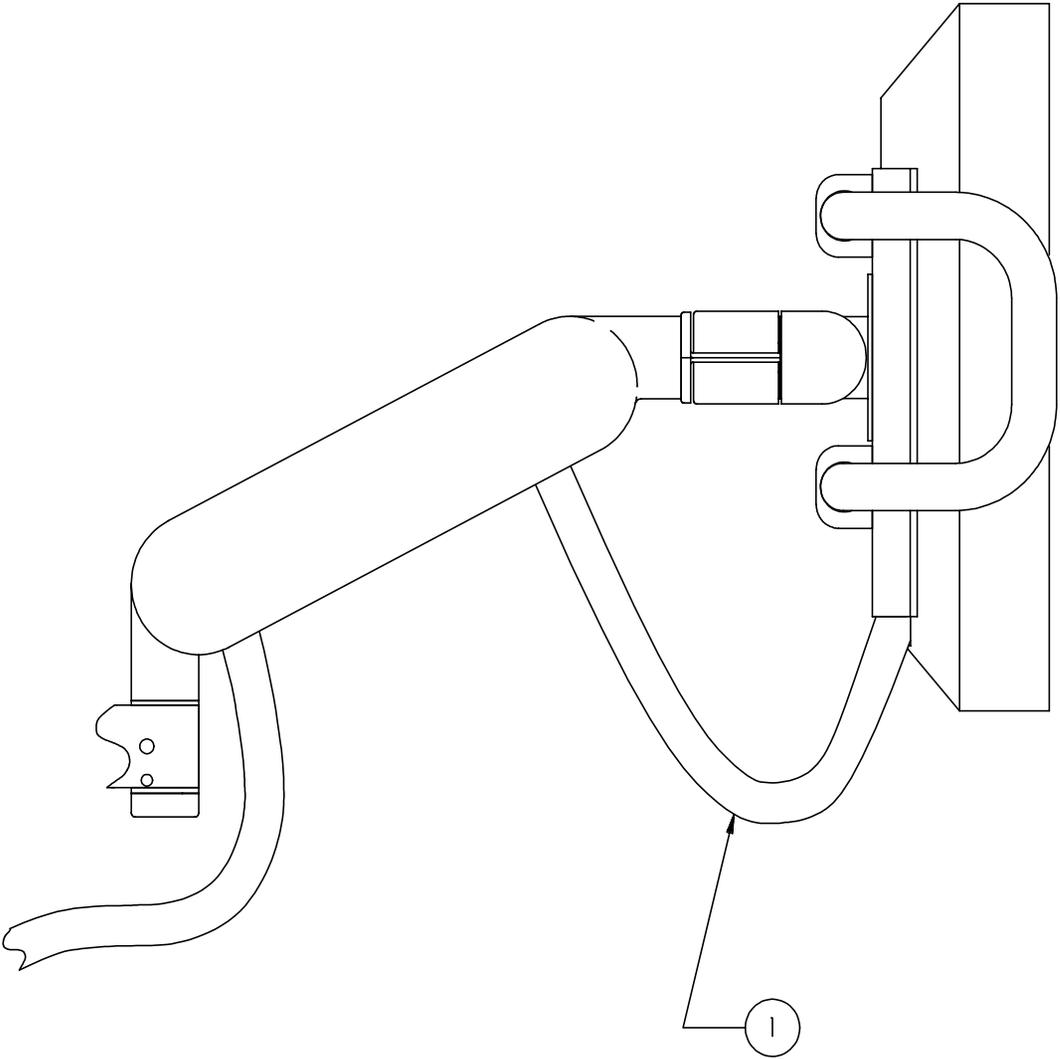

Figure 15
1. After re-attaching the monitor (with the cable connected), but before re-attaching the cable to the clamps & tie-wraps on the underside of the Secondary Arm, leave enough of a cable service loop (or slack) between the monitor and top end of the Secondary Arm so the monitor can rotate the maximum ranges of vertical and horizontal motions. See Figure 15 (next page).